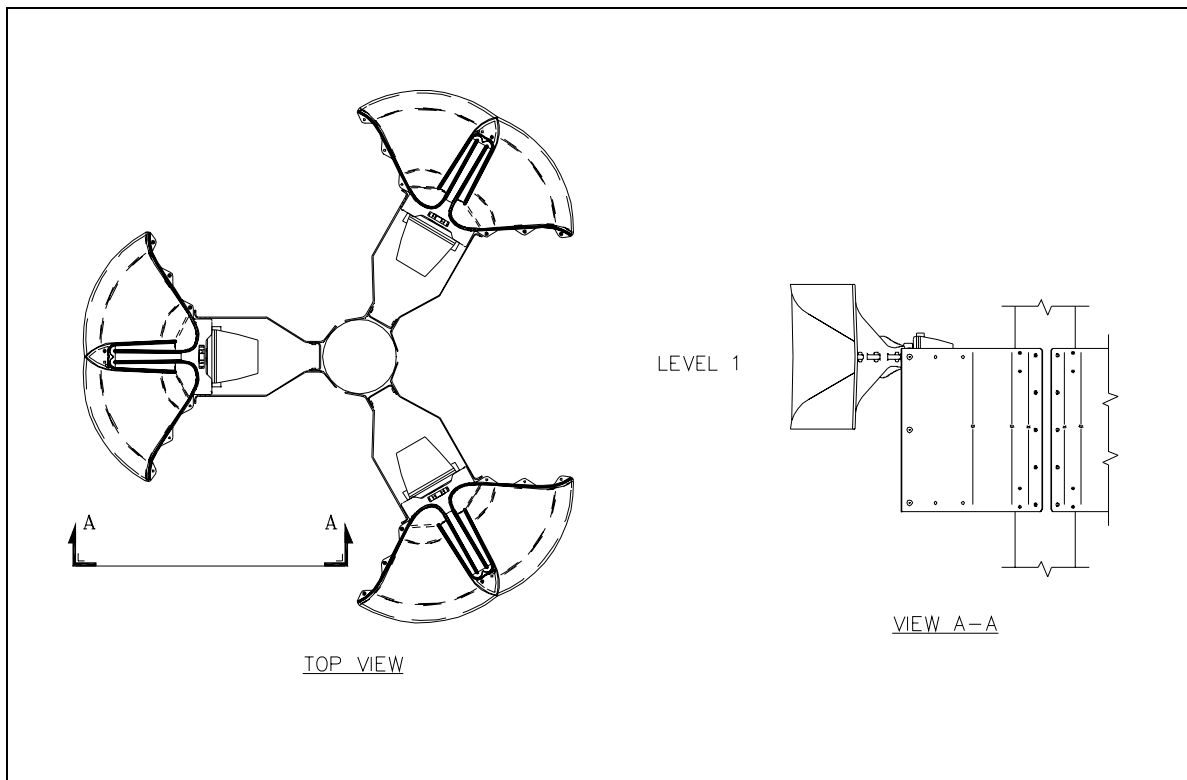

Figure 1. Arrangement 360-1
1. **360-1:** In this arrangement, three mounting bracket assemblies are arranged on a single level around the pole for 360° of coverage. The speaker horns can be mounted on both levels of each bracket assembly. This arrangement requires three Model 12537-001 kits. See Figure 1.